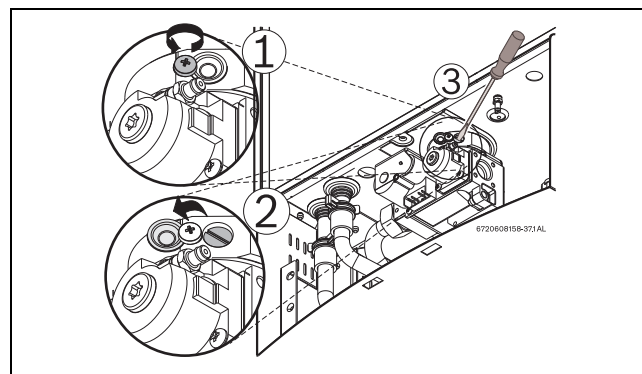

Fig. 65 Adjusting P1 CO₂ level
- Loosen yellow painted Phillips screw (1) and cover should rotate down (2) revealing a recessed brass slotted screw. Fig.65.